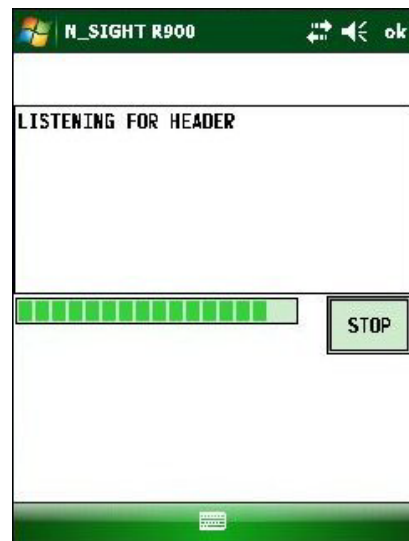

Figure 7.14 Listening for Data Screen
- 8 The R900 BCT activates the data logging MIU and listens for it to start transmitting. See Figure 7.14.